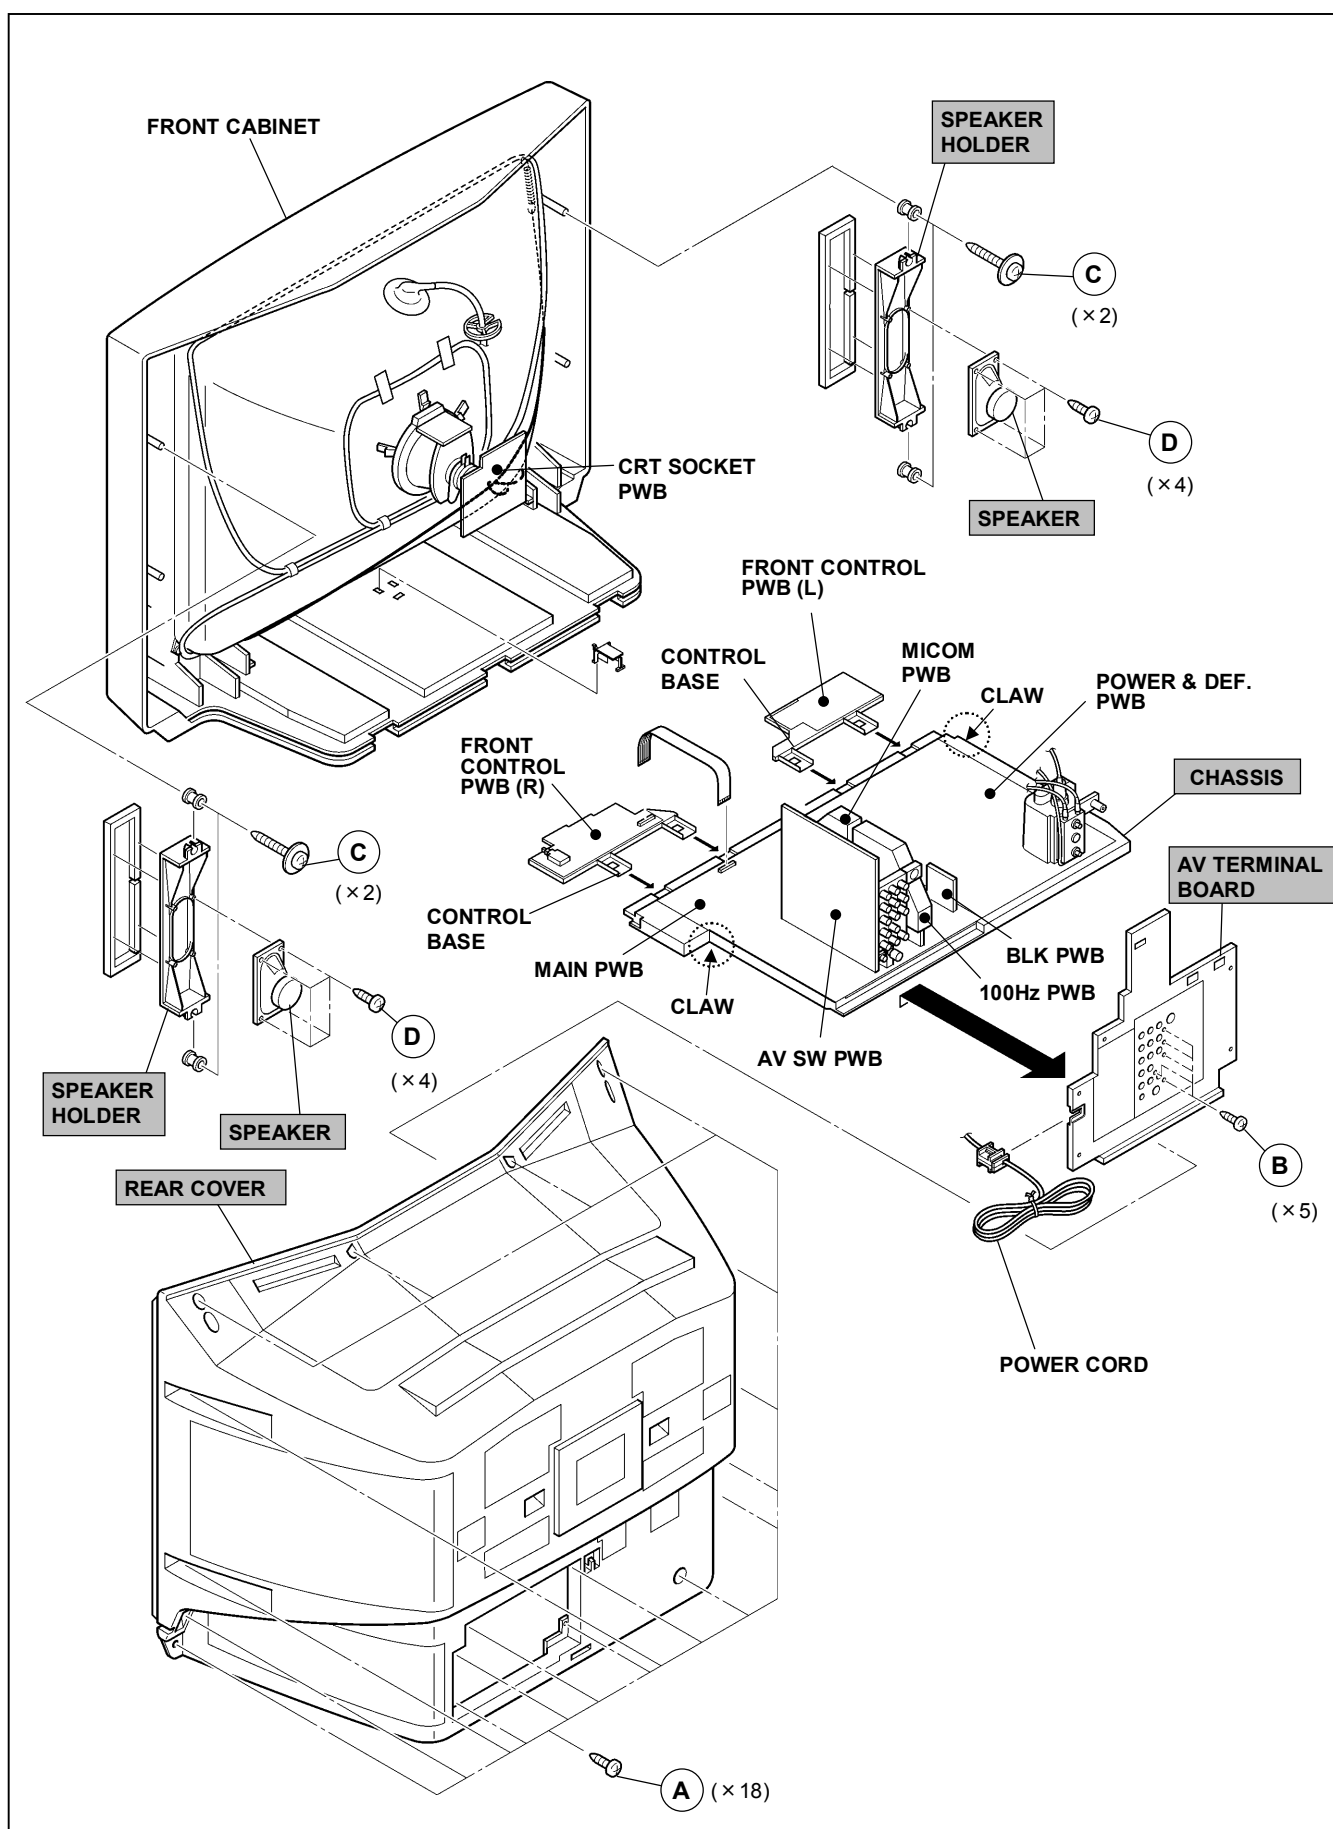

Fig. 1
1. Remove the 5 screws marked ㊷ as shown in the Fig. 1.
1. Remove the 2 screws marked ㊸, and remove the speaker holder as shown in Fig. 1.